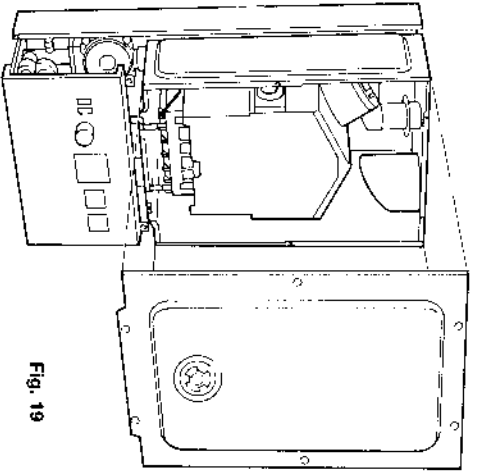

Fig. 19
Refer to fig 19
8.5.2 Remove roomsealed front cover plate by releasing six screws (fig 19) and easing cover off. The screws are not captive. Inspect gasket for damage. If damaged, replace.